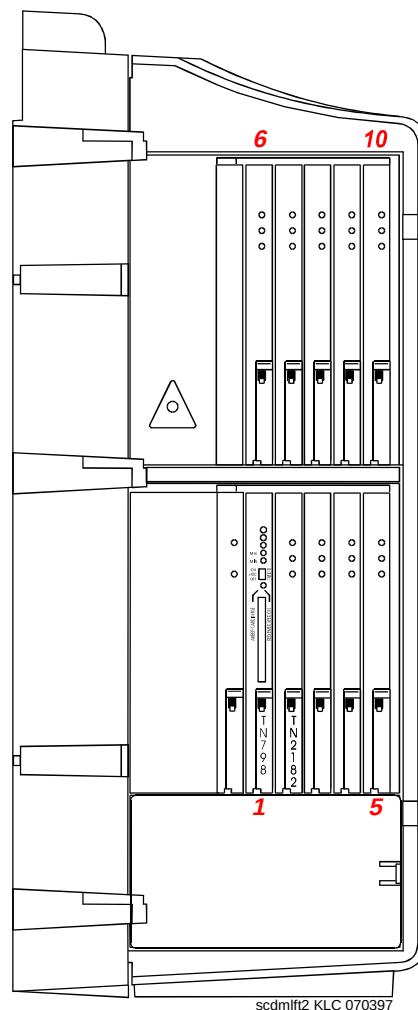

Figure 1-1. Compact Modular Cabinet (CMC) slot configuration
- The CMC cabinet has 2 shelves of 5 slots each (1-5, 6-10) as shown in Figure 1-1. This means that slots 5 and 6 are not contiguous like they are in other DEFINITY cabinet types and that Multi-Function boards such as the TN566 and the MAPD boards (TN800, TN801, and TN802) must be installed in specific slots. For example:
- The TN798 Processor circuit pack incorporates the RISC processor complex, the TN777B NETCON (including PCM flash card interface), and TN765 Processor Interface functions and is always found in slot 1 of the A carrier. (See Figure 1-1)
- The RISC-based TN798 Processor circuit pack must be located slot 1. Figure 1-1 also shows the Flash Memory Card slot for translations.